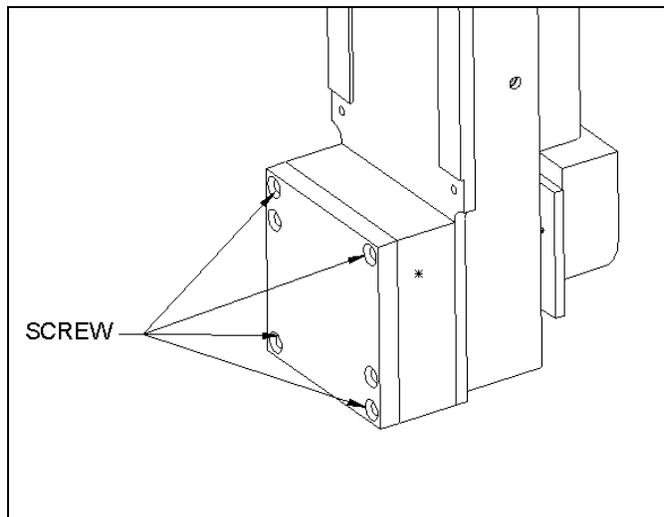

Figure 7-14 Removing Housing Cover Screws
- 2 Remove the 4 M 3 x 30 flat head screws that attach the cover to the mechanism (Figure 7-14).